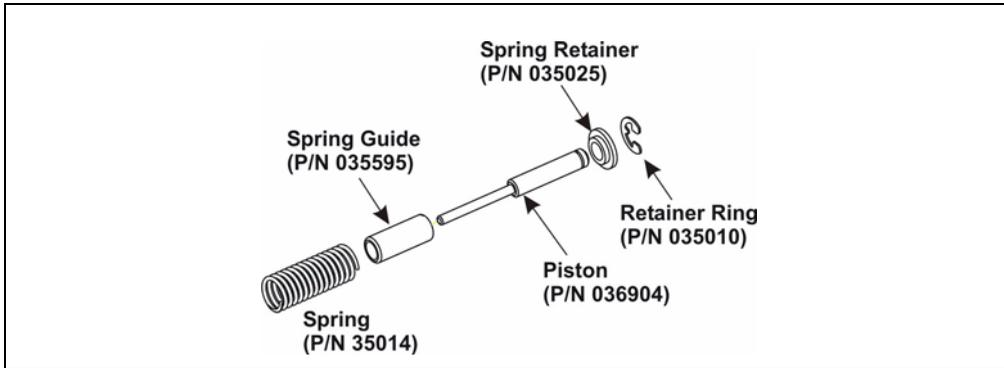

Figure 5-7. Piston Assembly
12. Remove the spring, spring guide, piston, spring retainer, and retainer ring from the pump housing (see Figure 5-7). Inspect the interior of the housing for liquid and corrosion. Clean up any spills and carefully clean any signs of corrosion from the interior of the housing.
6. Remove the piston guide, spring, spring guide, spring retainer, and piston by pulling them straight out, away from the pump housing (see Figure 5-7).